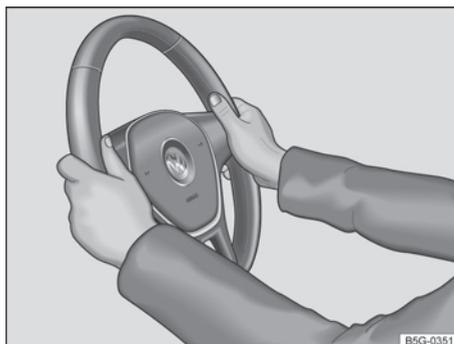

Fig. 66 On the steering wheel: 9 o'clock and 3 o'clock position.
2. Adjust the steering wheel so that you can hold it with both hands at its circumference at the 9 o'clock and 3 o'clock positions with your arms slightly bent → Fig. 66.